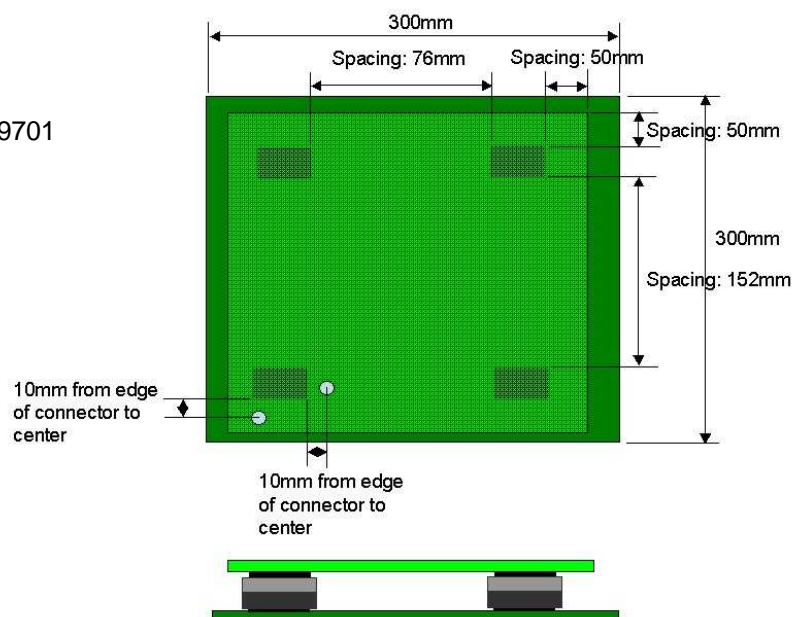

Fig.1
*Specimens are assembled as Fig.1.